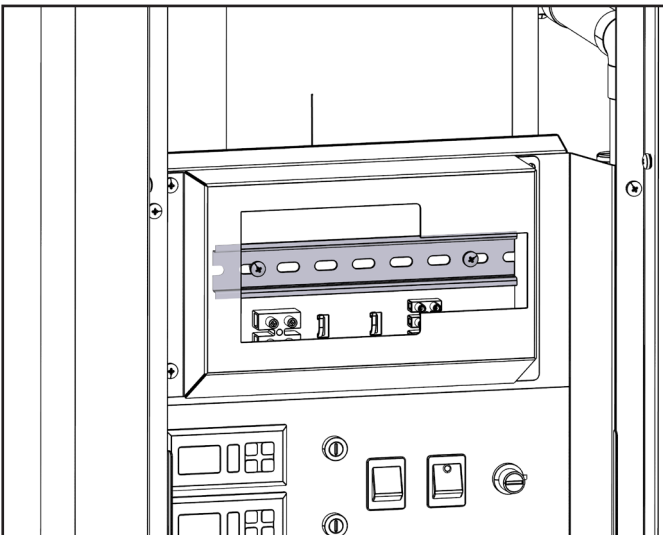

Figure 7-9: Meter housing and DIN rail (with cover removed)
- Cut the retaining cable ties and move the heat meter and heat pump power supply cables to one side to gain access to the DIN rail located behind the meter housing. Refer to Figure 7-9.
The required power supply for the heat meter is factory fitted and terminated in a 3-way terminal block, located behind the meter housing when the cover plate is removed. Refer to Figure 7-9.